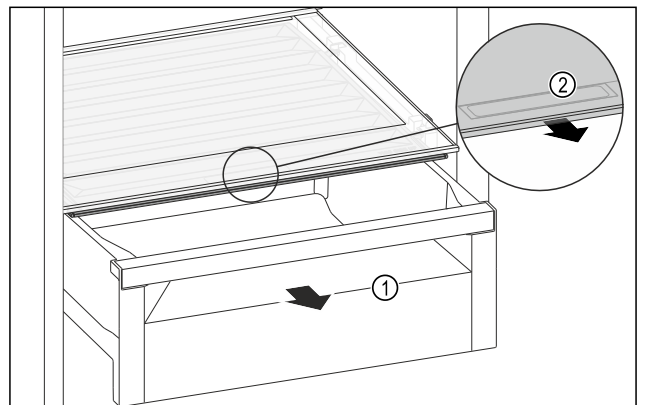

Fig. 81
- ▶ Pull out the drawer Fig. 81 (1).
- ▶ Grasp the recessed grip Fig. 81 (2) on the compartment lid and pull the compartment lid forwards at the same time.